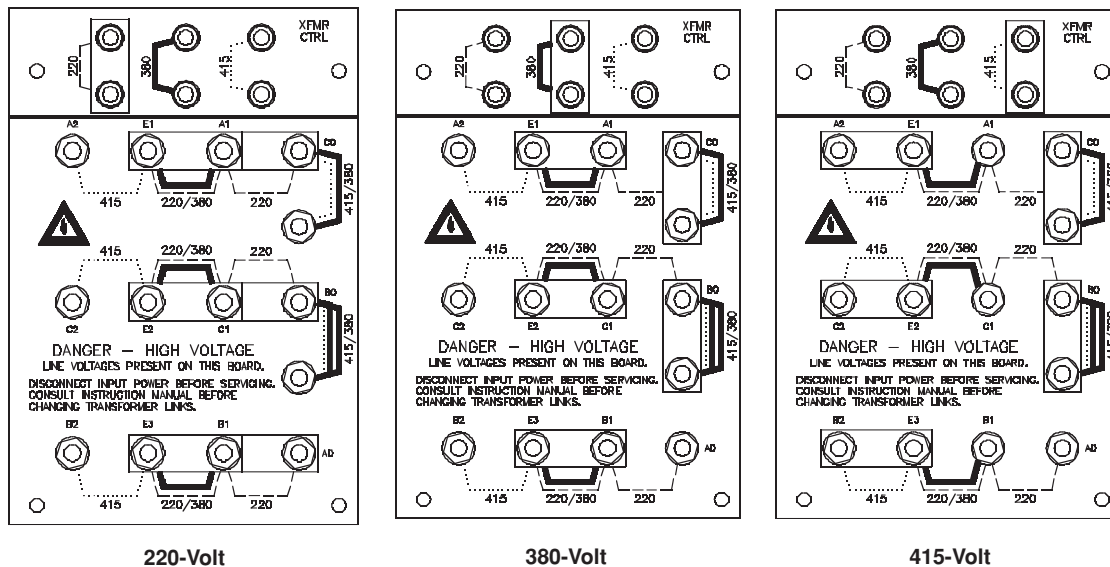

Figure 3-3 220/380/415V Linkboard Configurations
- The 220/380/415-volt, 3PH, 50 Hz power supplies (078024) are normally shipped from the factory set up for 380-volt operation, unless otherwise specified. To change the power supply to a different voltage (220 or 415 volts), the links must be moved (Figure 3-3).